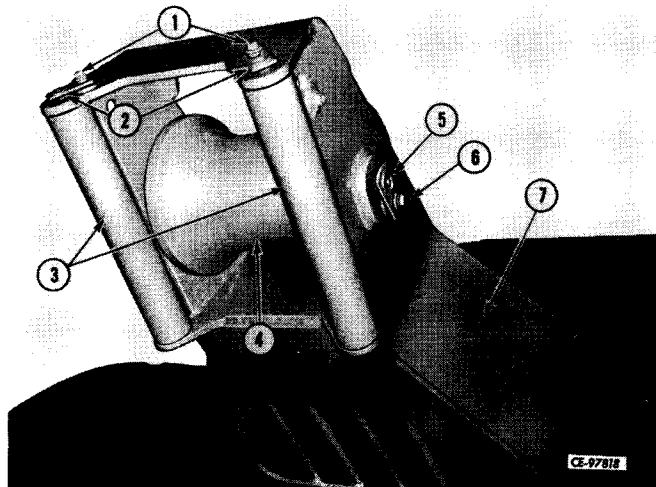

Figure 1-3
Remove rollers (3, Fig. 1-3) by removing cap screws (1), lock washers and flat washers. Re-